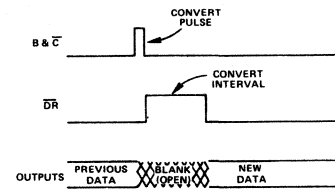
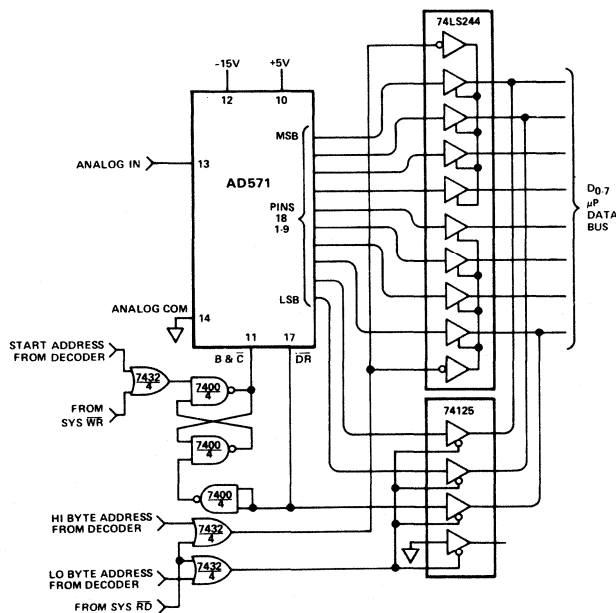

Figure 13. Convert Pulse Mode
Figure 16. Interfacing AD571 to an 8-Bit Bus (8080 Control Structure)
**Convert Pulse Mode** – In this mode, data is present at the output of the converter at all times except when conversion is taking place. Figure 13 illustrates the timing of this mode. The  $\overline{\text{BLANK}}$  and  $\overline{\text{CONVERT}}$  line is normally low and conversions are triggered by a positive pulse. A typical application for this timing mode is shown in Figure 16, in which  $\mu\text{P}$  bus interfacing is easily accomplished with three-state buffers.
The AD571 can easily be arranged to be driven from standard microprocessor control lines and to present data to any standard microprocessor bus (4-, 8-, 12- or 16-bit) with a minimum of additional control components. The configuration shown in Figure 16 is designed to operate with an 8-bit bus and standard 8080 control signals.